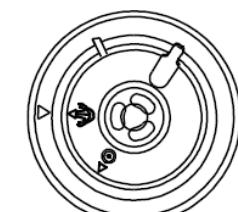

Fig. 2
3. Prepare the pressure lid (2) as shown in the Fig. 2.
- Pull the metal protrusion on the underside of the lid to remove the protective cover on which the sealing (4) is fitted. The sealing (4) can be removed and cleaned. Make sure that the sealing (4) is not damaged or torn. If so, it needs to be replaced. Make sure that the float valve (3) is clean and can move freely.
4. Grab the pressure lid (2), turn the handle clockwise and lift the lid vertically upwards.
5. Take out the inner container (8). The total volume of foods and water should not exceed 2/3 of the volume of the inner container.
6. Make sure that the inner surface of the appliance (9) is dry and place the inner container (8) in the body of the appliance (9).
7. Place the pressure cover (2) on the appliance and turn it counterclockwise until you hear a click. The lid is now in the correct position.
8. Please bear in mind that the pressure valve (1) must be freely movable for the cooker to function properly.